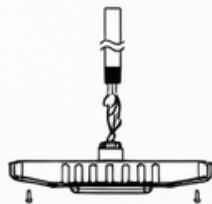

Figure 4
1. Connect the wiring to the local power supply in 3/4"NPT Stem (Figure 4).